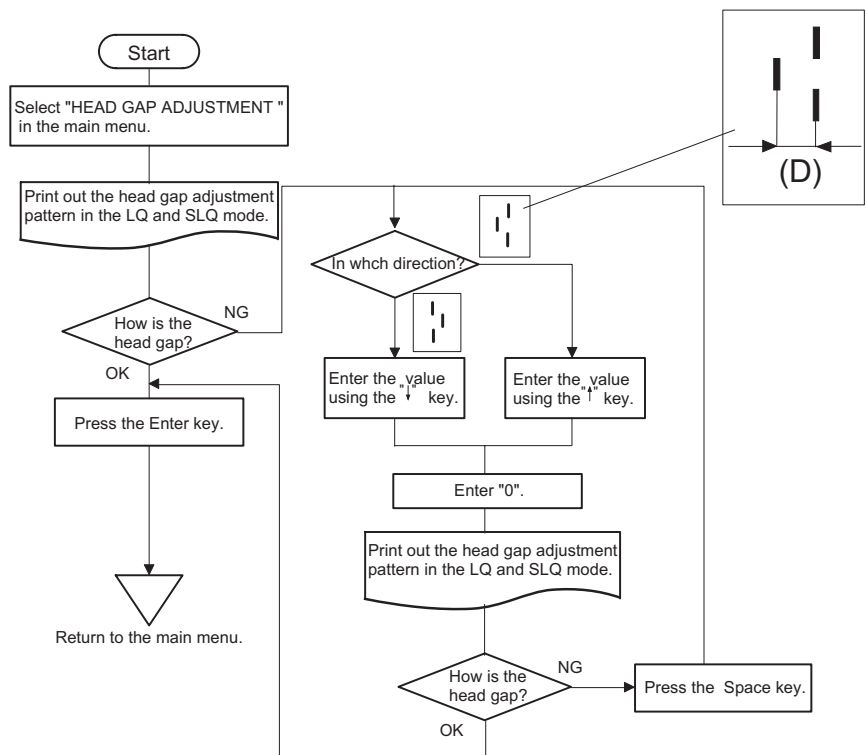

Figure 4-9. Head Gap Adjustment Flow
6. Adjust the deviation referring to the flowchart below to make the deviation (D) less than 2/1 of the line width in the LQ mode and 1/4 of the line width in the SLQ mode. (Refer to Figure 4-9.)